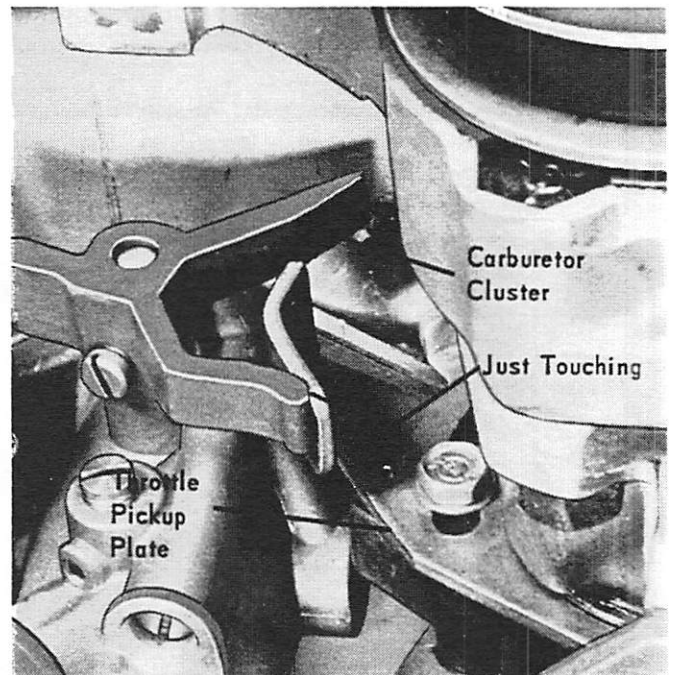

Figure 5. Forward Pickup Adjustment
8. Rotate flywheel clockwise until No. 4 piston strikes Timing Gauge center shaft. This is .030" BTDC. (Figure 5)
11. Slide throttle pickup plate so that first throttle pickup tab (without nylon sleeve) just touches carburetor cluster. (Figure 5)